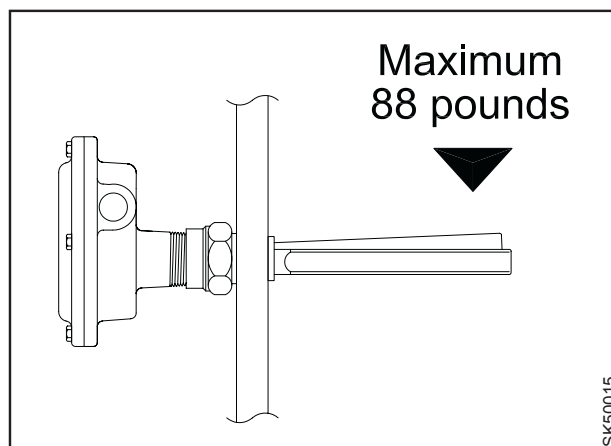

Figure 4. Maximum Downward Force
- The maximum allowable downward force on the fork assembly is 88 pounds. (See Figure 4)